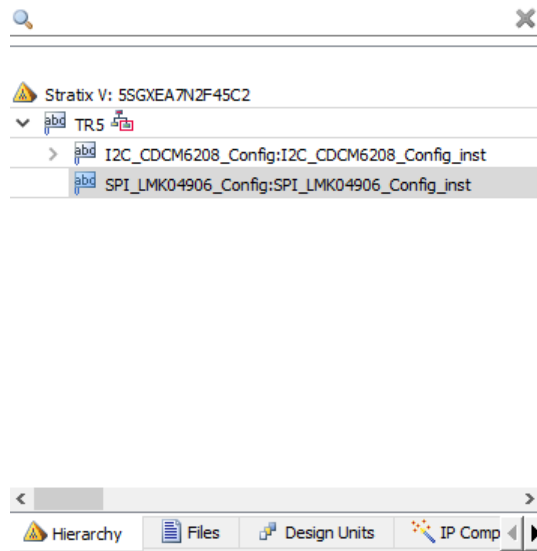

Figure 5-12 Sub-Module file " SPI_LMK04906_Config.v"
- Open LMK04096B control IP sub-module “SPI_LMK04906_Config.v” as shown in Figure 5-12, refer Design Report parameter to modify all the sub-module corresponding register values (See Figure 5-13).